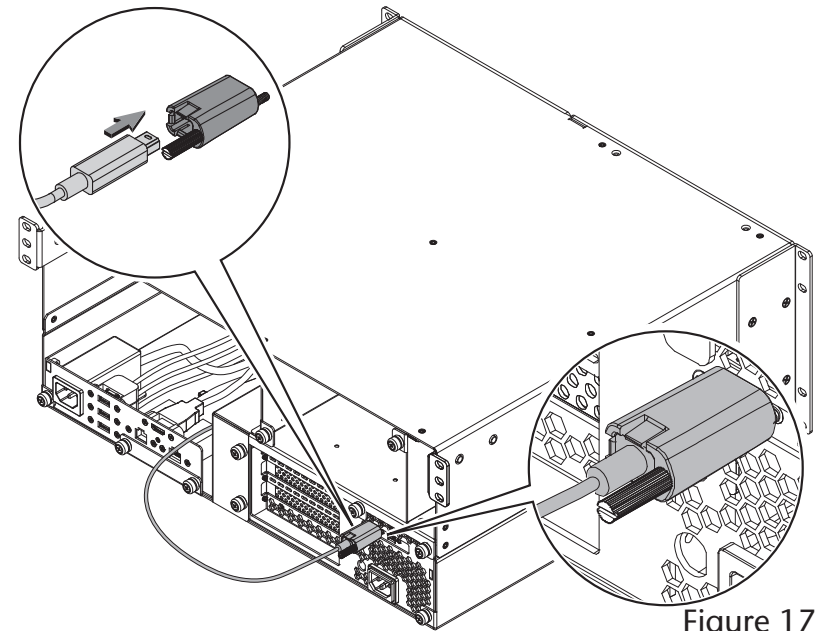

Figure 17
To attach the clip to the cable, remove them from their packaging, and then insert the connector into the connector clip as shown (**Figure 17**). Note that the connector will pass all the way through the clip; when you connect the cable to the chassis, the clip will secure the cable.
6. Plug in the included Thunderbolt cable to either Thunderbolt port on the PCIe card expansion module (**Figure 17**). Secure the retainer clip to the expansion module if you attached it.